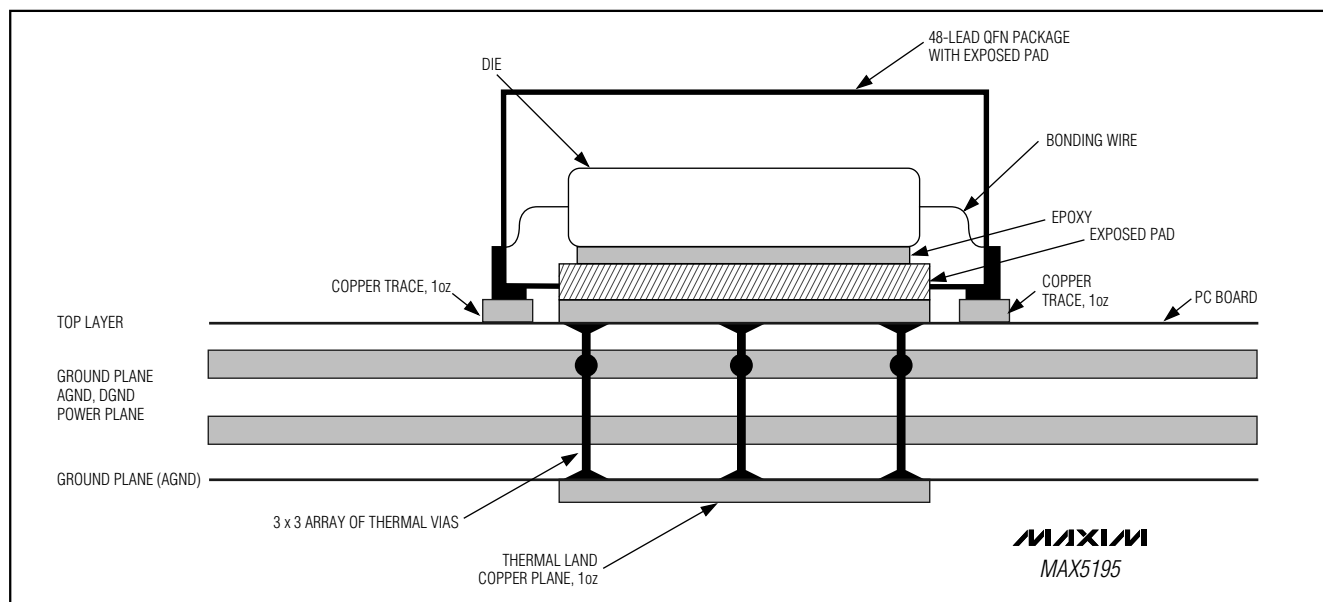

Figure 9. MAX5195 Exposed Paddle/PC Board Cross Section
The MAX5195 is packaged in a thermally enhanced 48-pin QFN-EP package, providing greater design flexibility, increased thermal efficiency, and a low thermal junction-case (θ_{jc}) resistance of $\approx 2^{\circ}\text{C/W}$. In this package, the data converter die is attached to an EP lead frame. The back of the lead frame is exposed at the package bottom surface (the PC board side of the package, Figure 9). This allows the package to be attached to the PC board with standard infrared (IR) flow soldering techniques. A specially created land pattern on the PC board, matching the size of the EP (5.5mm \times 5.5mm), guarantees proper attachment of the chip, and can also be used for heat-sinking purposes. Designing thermal vias* into the land area and implementing large ground planes in the PC board design further enhance the thermal conductivity between board and package. To remove heat from a 48-pin QFN-EP package effectively, an array of 3 \times 3 (or